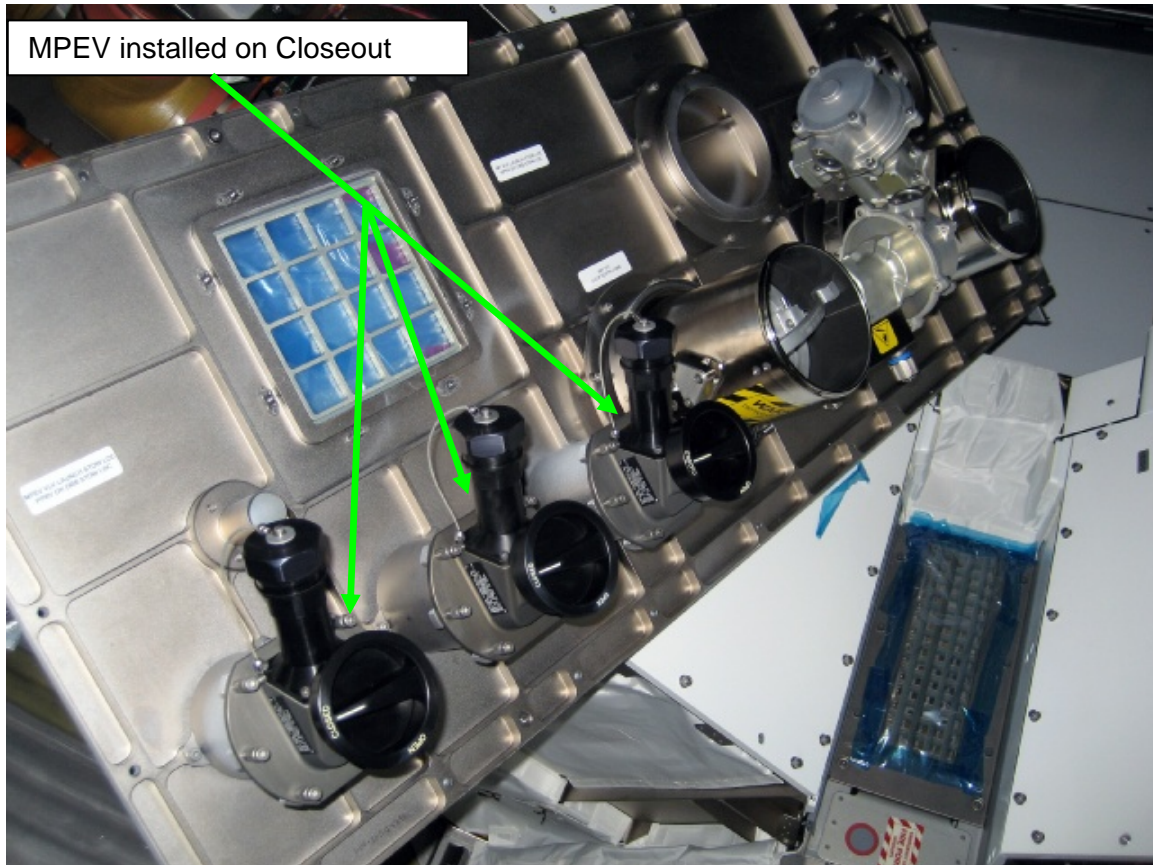

Figure 3.- Forward Midbay with Closeout Removed.
- 2.3 Remove MPEV from stowed location at NOD3F3-02, Fasteners (six) (Ratchet, 1/4" Drive; 5/32" Hex Head Driver, 1/4" Drive). Refer to Figure 3.